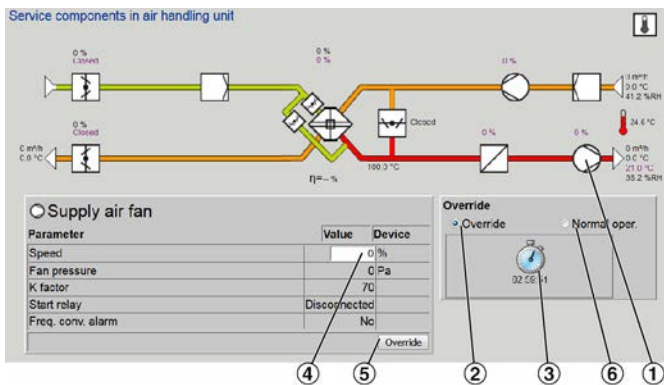

Fig. 39: Override function
Use the 'Override' function (Fig. 39) when you carry out service or maintenance jobs, to check whether the outputs work correctly. The 'Override' function cannot be used if there are any active alarms.
- ▶ Click on the AHU component (Fig. 39/1) for which you want to override a parameter setting (e.g. extract air fan).
- ▶ Click on 'Override' (Fig. 39/2).
- ▶ Click on the clock (Fig. 39/3) to set a time.
- ▶ Enter the override percentage for the extract air fan speed (Fig. 39/4).
- ▶ Click on 'Override' (Fig. 39/5).